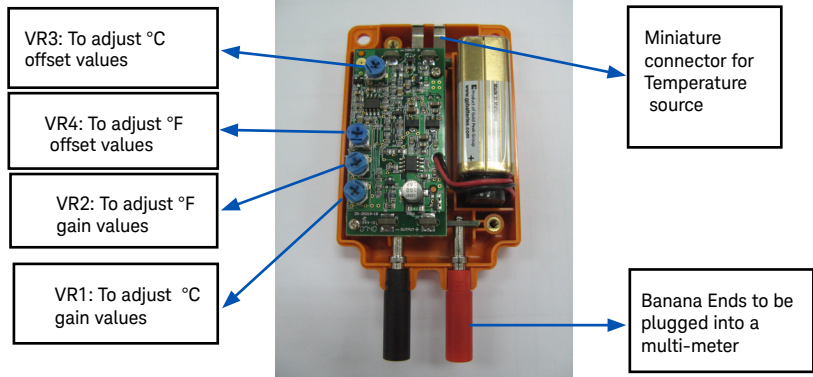

Figure 1: U1586B Adjustment Diagram
9. Look for VR3 (refer to Figure 1 for the location of VR3 in the adjustment diagram) and carefully adjust the variable resistor using a small Phillips tip screwdriver until the display of the multimeter meets the required reading of  $0.0\text{ mV} \pm 0.2\text{ mV}$ .
9. Look for VR1 (refer to Figure 1 for the location of VR1 in the adjustment diagram) and carefully adjust the variable resistor using a small Phillips tip screwdriver until the display of the multimeter meets the required reading of  $300.0\text{ mV} \pm 0.2\text{ mV}$ .
9. Look for VR4 (refer to Figure 1 for the location of VR4 in the adjustment diagram) and carefully adjust the variable resistor using a small Phillips tip screwdriver until the display of the multimeter meets the required reading of  $32.0\text{ mV} \pm 0.2\text{ mV}$ .
9. Look for VR2 (refer to Figure 1 for the location of VR2 in the circuit diagram) and carefully adjust the variable resistor using a small Phillips tip screwdriver until the display of the multimeter meets the required reading of 572.0 mV  $\pm$  0.2 mV.